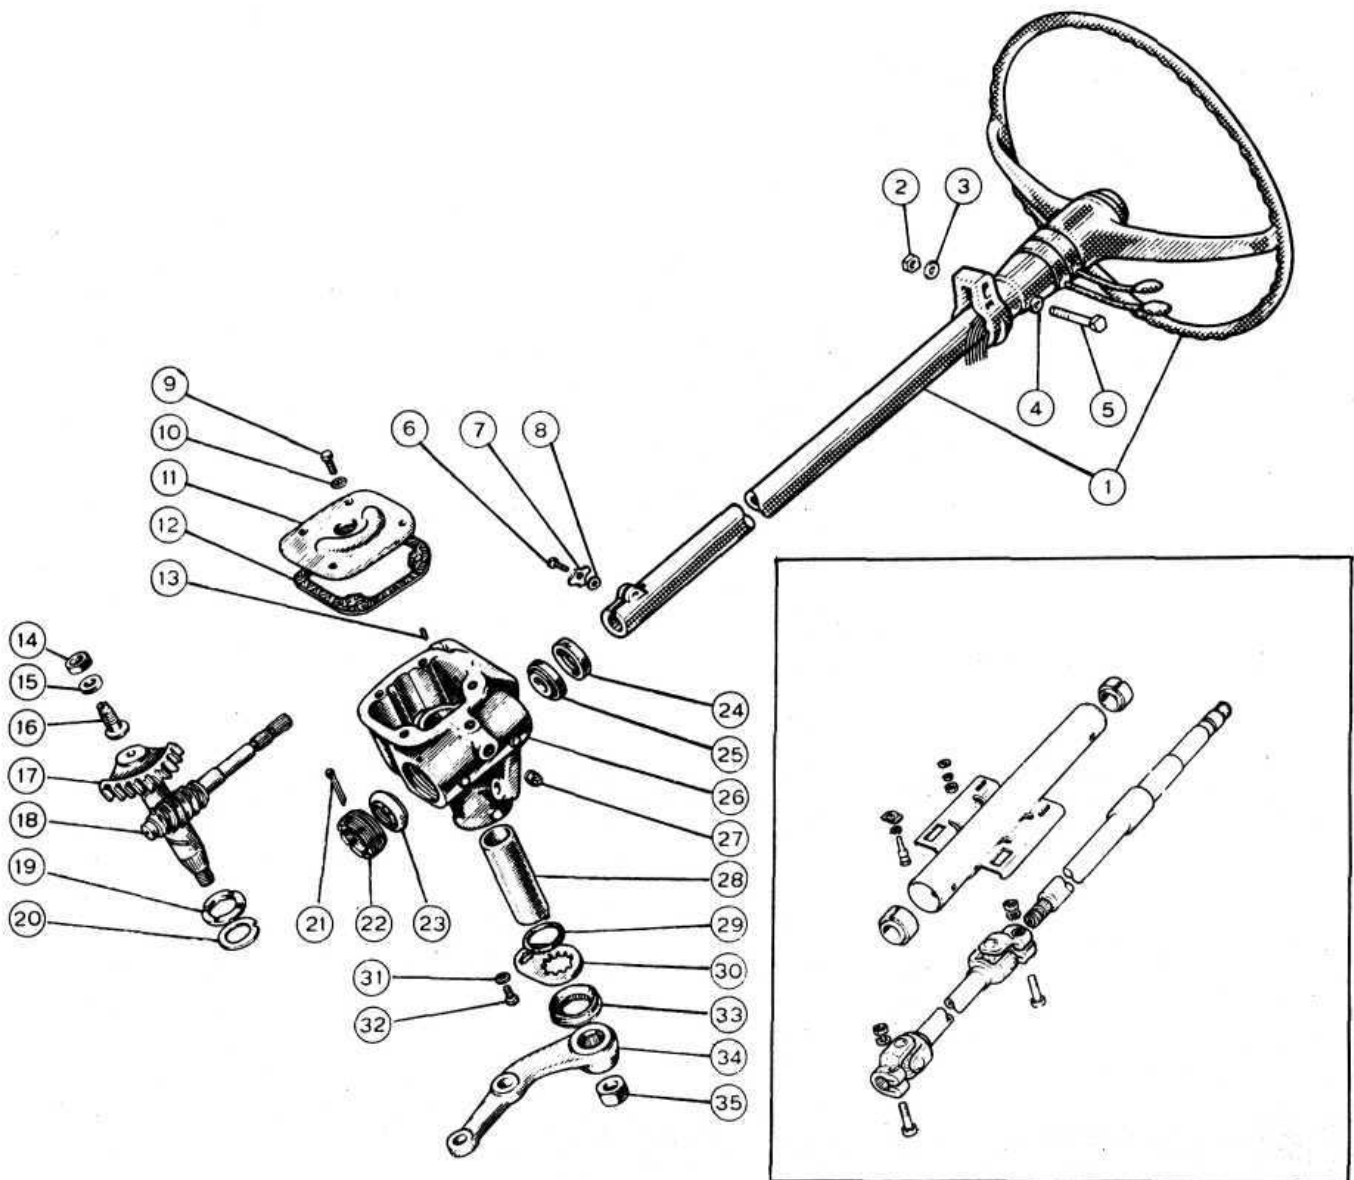

FIG 9:3 Layout of steering gear components
- 1 If the backlash between the worm screw and the sector is excessive it should be adjusted by first disconnecting the pitman arm and its relevant seal. Remove the screw 7 (see **FIG 9:5**) fixing the abutment plate 6. Rotate the eccentric bush 5 by the adjustment plate and move the sector in towards the worm screw. The adjustment plate should be secured again using the second fixing hole.
Key to Fig 9:3